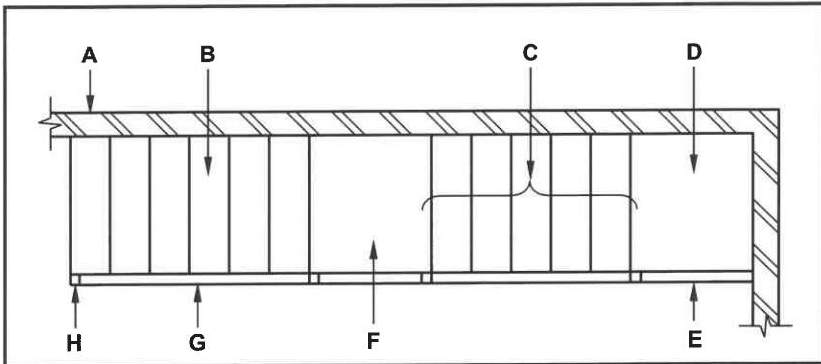

FIGURE 6.7
- 6.7 Study FIGURE 6.7 below. Match the word(s) in the list below with the labels in FIGURE 6.7. Write only the correct word(s) next to the label (A–H) in the ANSWER BOOK, e.g. J – Hatching.